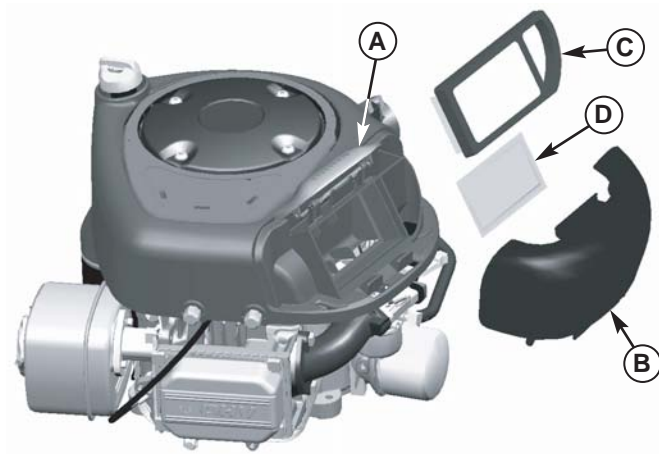

Figure 29. Air Filter Service - Briggs & Stratton Single Cylinder Models
3. Install the pre-cleaner (D) with the mesh side up. Install the filter (C) as shown.
4. Install the cover (B, Figure 29) making sure the tabs are inserted into their slots. Secure with the latch (A).